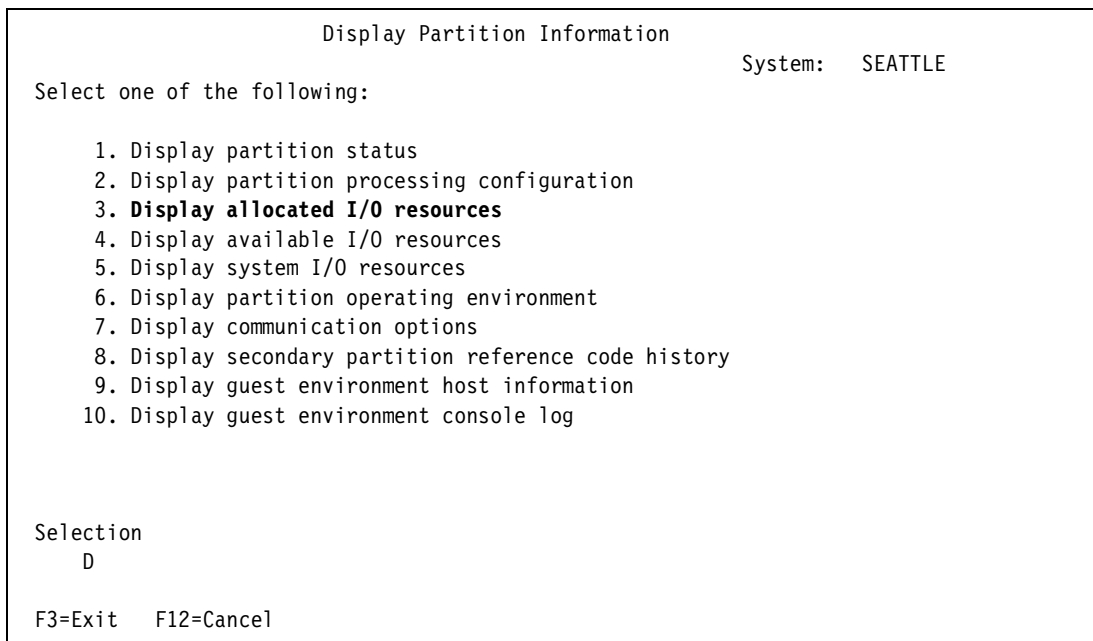

Figure 11-72 Displaying allocated resources
- o. On the Display Partition Information panel (Figure 11-72), choose option 3 (Display allocated I/O resources).